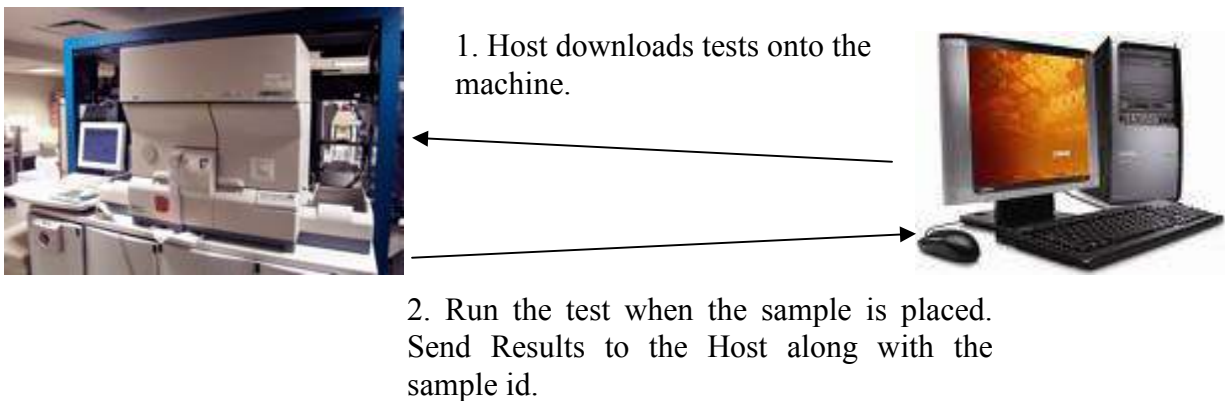

Fig. 1.1
- 1) In the first case(Fig.1.1), the host receives the test ordered at the time of billing. The host then determines the machine on which the test is to be performed. The ordered tests are then transferred onto the appropriate machine along with the sample id. When the machine receives a sample with a barcode label attached, the sample id is scanned from the label and the machine searches the worklist to see the tests that need to be performed. If it finds an entry for the scanned sample id, the tests are then performed on the sample.